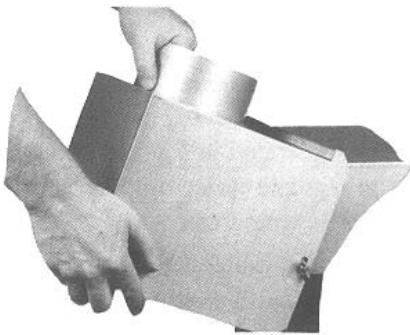

Figure 21: Draft Hood Attachment
- 2. Position Draft Hood on Canopy Rear Flange. See Figure 21. Top canopy flange must fully engage "U"-shaped draft hood flange for proper installation and operation. Care must be taken to assure that draft hood is level.